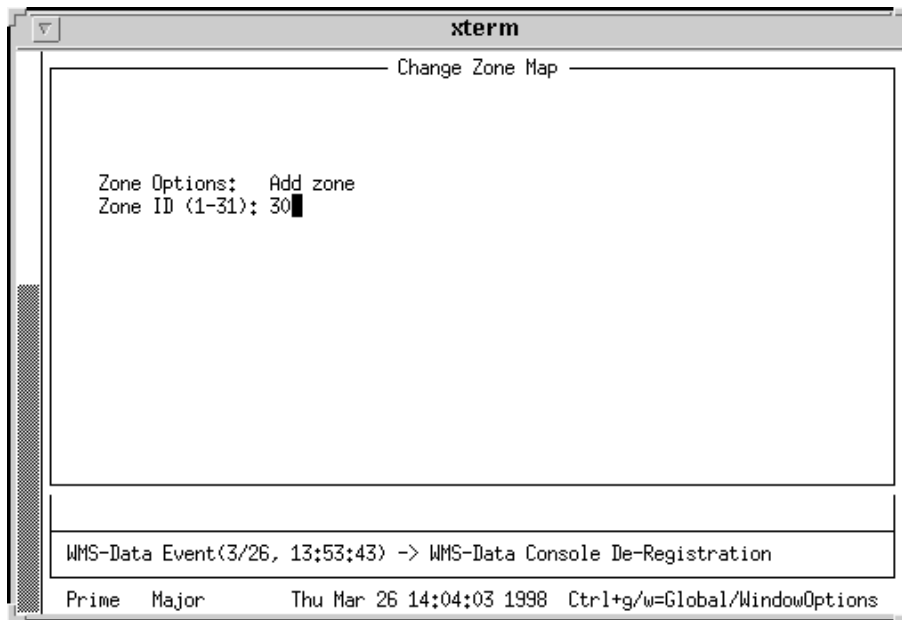

Figure 4-3: Select Zone Options Screen
3. The Change Zone Map screen appears (see Figure 4-3).